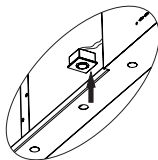

Fig. 8
* Before fitting the replacement led lamp remove the protective foil on the frame and stick it on its place on the appliance body. **Fig. 8**